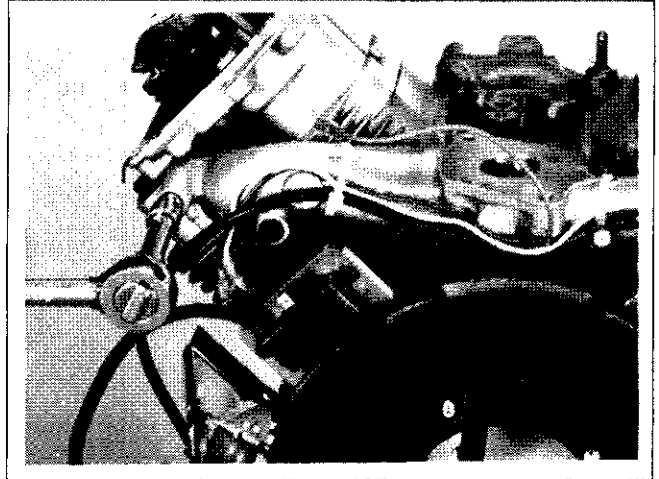

Figure 9-40. Removing Intake Manifold.
2. Remove the intake manifold and intake manifold gaskets. See Figure 9-40.